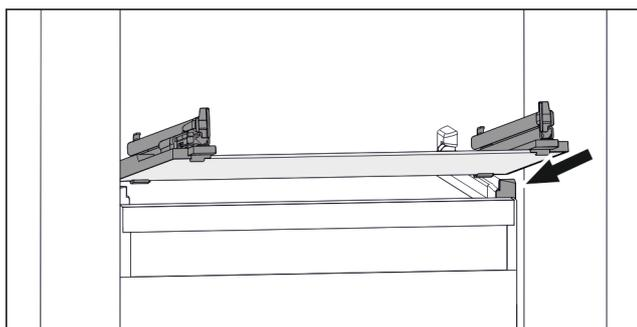

Fig. 54 Example illustration of glass shelf
- ▶ Position glass shelf at an angle behind the stoppers. (see Fig. 54)